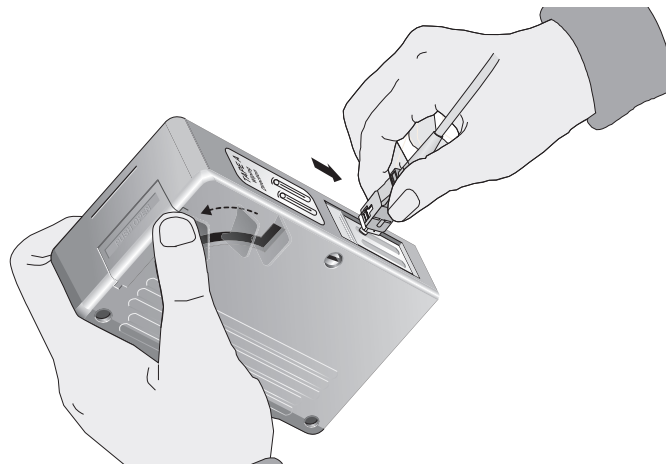

Figure 22. Rubbing the Ferrule Tip on the Cleaning Surface
3. With one hand, hold the cartridge cleaner and push the lever on the cleaning cartridge in the direction of the arrow to expose the cleaning surface, as shown in Figure 22.
4. Place the ferrule tip on the exposed cleaning surface and rub the ferrule in a downward direction, as shown in Figure 22.
1. Insert the swab into the adapter as shown in Figure 22 and rub the ferrule tip with the swab.